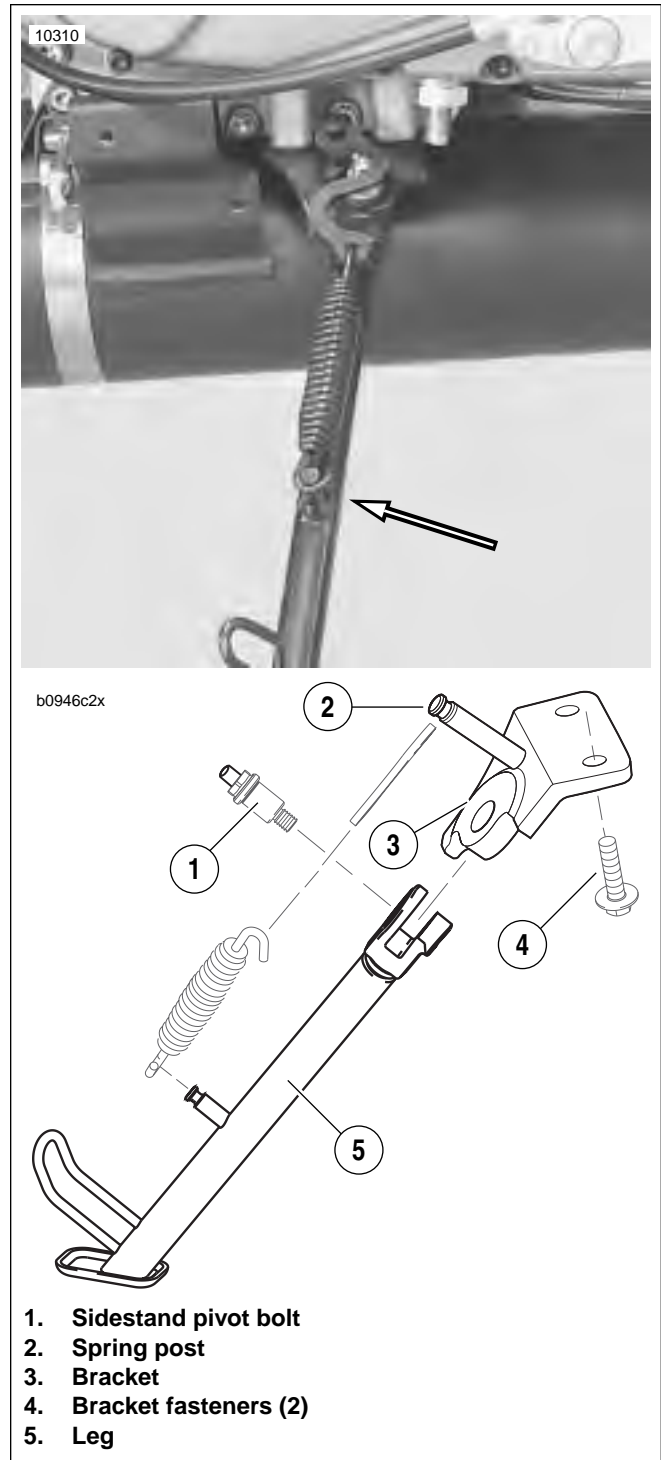

Figure 2-130. Sidestand Assembly (Extended)
2. See Figure 2-130. Remove fasteners (4) securing sidestand bracket (3) to frame.
2. See Figure 2-130. Remove sidestand leg.
- a. Retract sidestand leg (5).
- c. Remove sidestand pivot bolt (1).